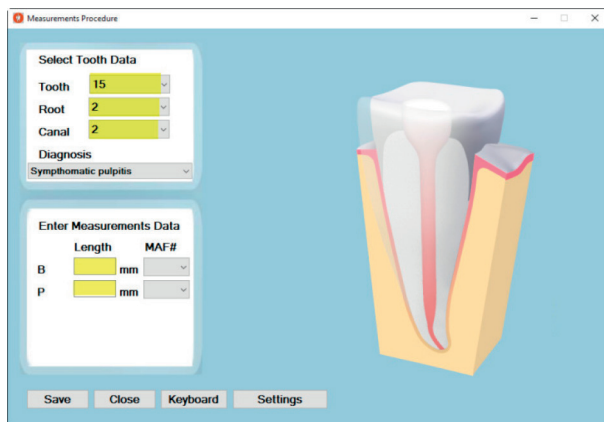

Fig. 19
9. In the **Select Tooth Data** window identify the Tooth, Root, & Canal numbers, select the type of diagnosis. After this step is done the corresponding windows will appear in the **Enter Measurements Data** window below. (Fig. 19)